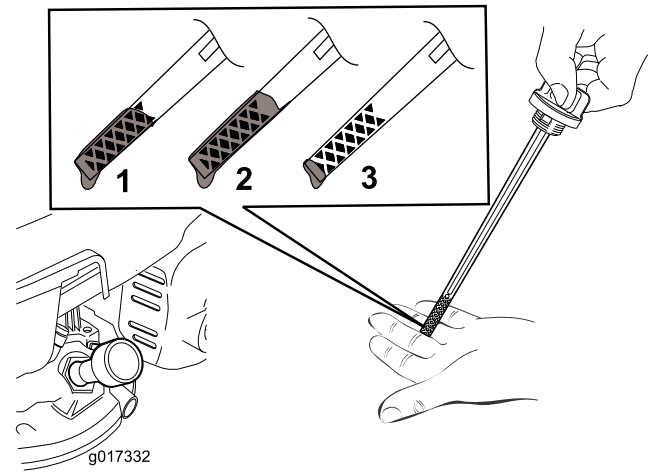

Figure 6
Note: Fill the engine crankcase with oil until the dipstick indicates that the engine oil level is correct as shown in Figure 6. If you overfill the engine with oil, remove the excess oil as directed in Changing the Engine Oil.
- Remove the dipstick (Figure 6).